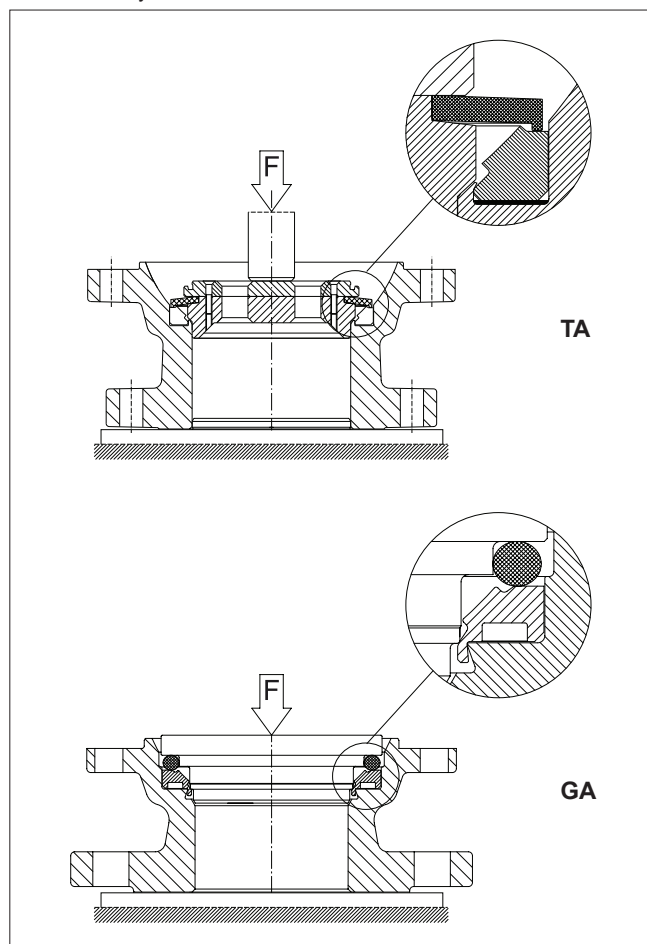

Fig. 29 Locking of the seat
- Mount the locking tool carefully over the seat, see Figure 29.